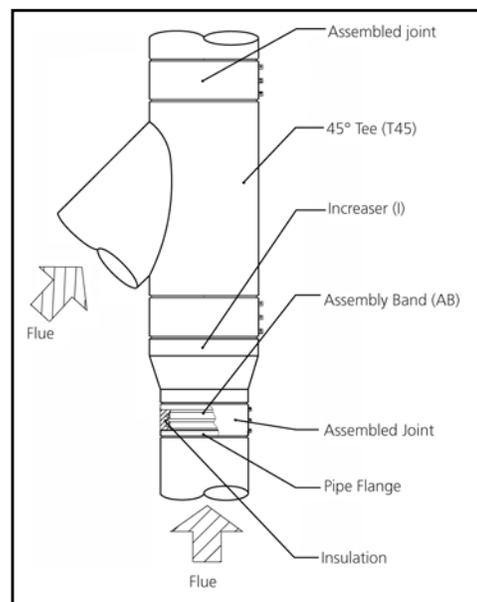
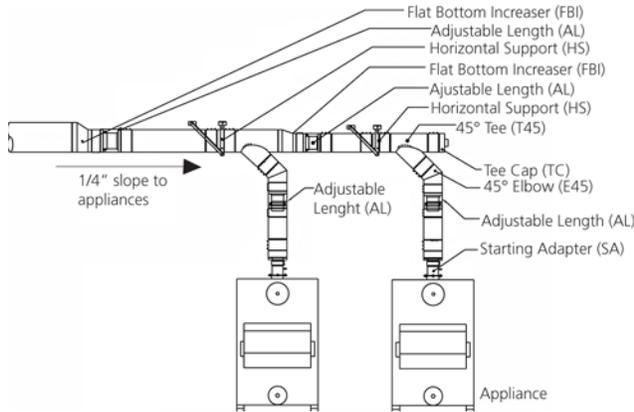

Figure B-6 - Increaser with 45° Tee
Figure B-7 - Manifold using 45° Tee and Increaser
2. The 45° Tee (T45) is also used for multiple appliance exhaust in manifold breaching. It allows lower friction losses those resulting in smaller manifold diameter. See Fig.B-7.
2. The Increaser (I) can be connected directly to a 45° Tee (T45). (See Fig.B-6) and can be used in a multiple appliance manifold (see Fig.B-7).
2. May be used to slope a vent to facilitate the run-off of condensation water from the vent system (see Fig.B-7).